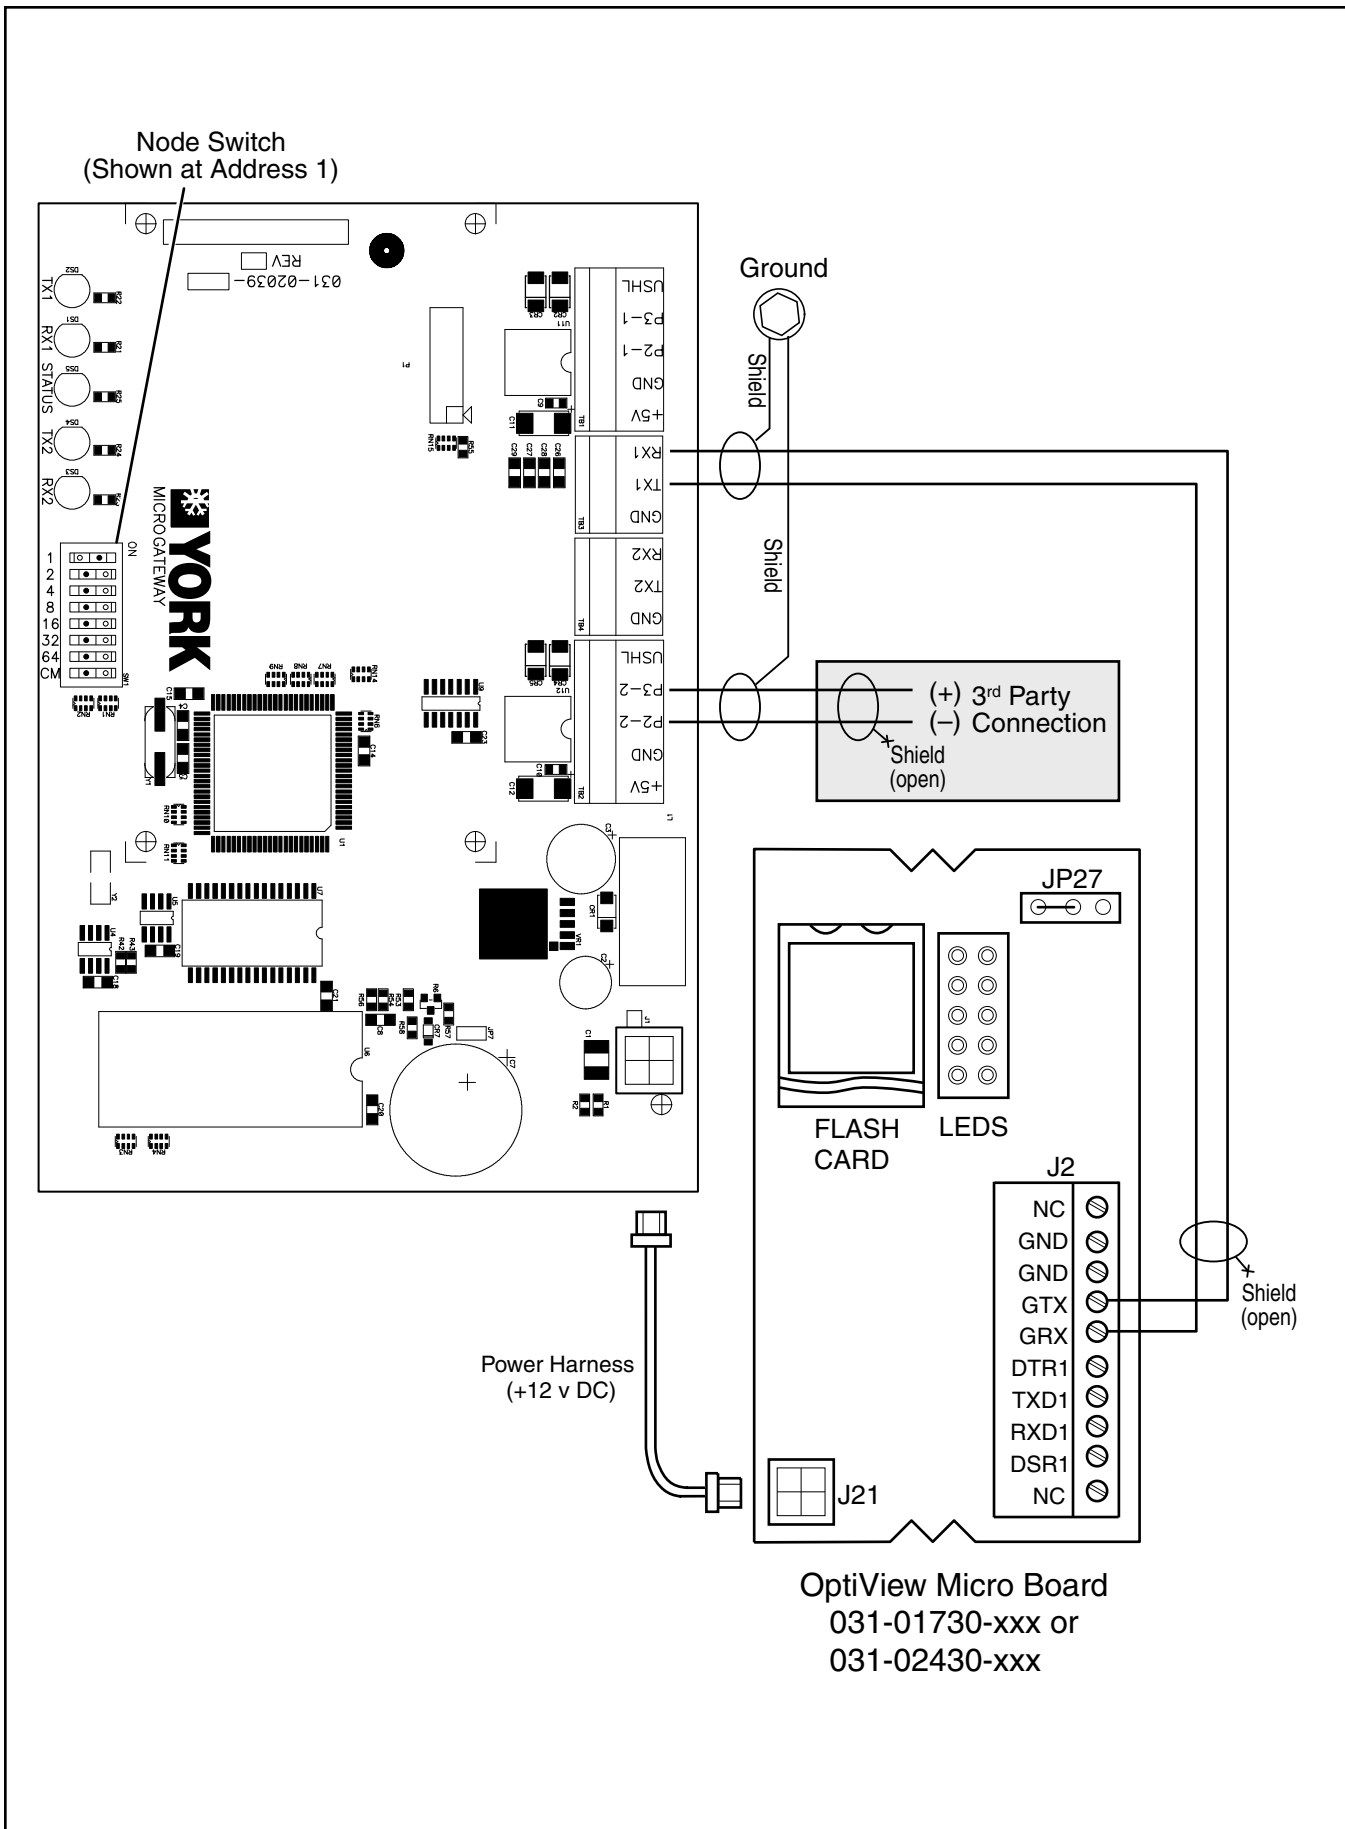

Figure 7. OptiView Connections
6. Ensure jumper J27 is set for RS232 (refer to Figure 7 – OptiView Connections).
7. Connect the power harness (included with the kit) from J1 on the MicroGateway to J21 on the OptiView micro panel (refer to Figure 7).